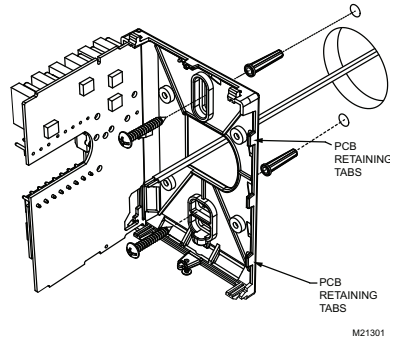

Fig. 2. Location of PCB retaining tabs and mounting screws
3. Open the thermostat PCB to the left by pressing the PCB retaining tabs. (Fig. 2)
8. Insert screws through the mounting holes on each side of the base and mount base on wall. (Fig. 2).